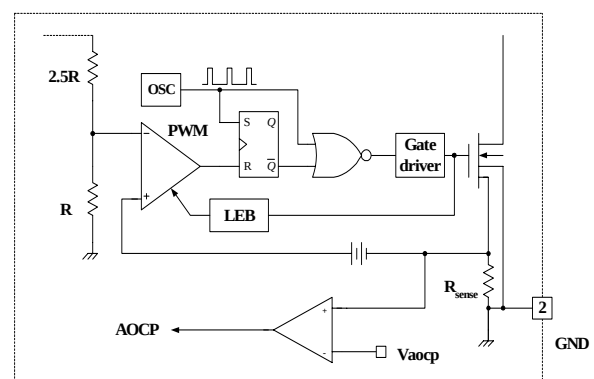

Figure 11. AOCP block
3. Feedback Control : FSCQ1565RP employs current mode control, as shown in Figure 11. An opto-coupler (such as the H11A817A) and shunt regulator (such as the KA431) are typically used to implement the feedback network. Comparing the feedback voltage with the voltage across the Rsense resistor plus an offset voltage makes it possible to control the switching duty cycle. When the reference pin voltage of the KA431 exceeds the internal reference voltage of 2.5V, the H11A817A LED current increases, thus pulling down the feedback voltage and reducing the duty cycle. This event typically happens when the input voltage is increased or the output load is decreased.
3.1 Pulse-by-pulse current limit: Because current mode control is employed, the peak current through the Sense FET is limited by the inverting input of PWM comparator (Vfb*) as shown in Figure 11. The feedback current (IFB) and internal resistors are designed so that the maximum cathode voltage of diode D2 is about 2.8V, which occurs when all IFB flows through the internal resistors. Since D1 is blocked when the feedback voltage (Vfb) exceeds 2.8V, the maximum voltage of the cathode of D2 is clamped at this voltage, thus clamping Vfb*. Therefore, the peak value of the current through the Sense FET is limited.